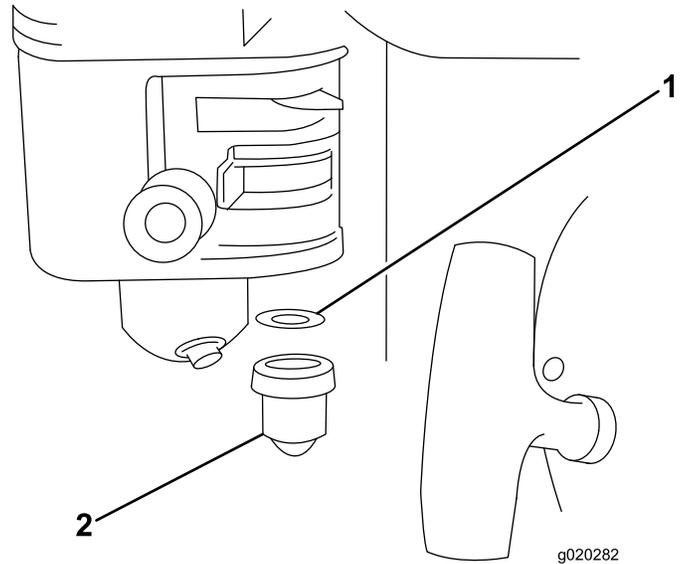

Figure 17
4. Remove the sediment cup and O-ring (Figure 17).